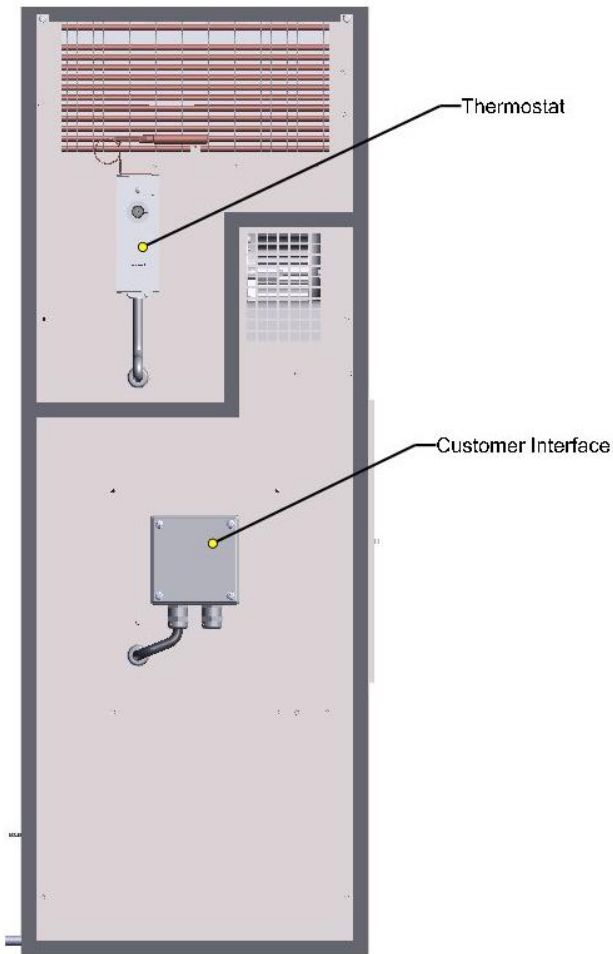

Figure 3: Customer Interface
2. Locate customer interface electrical junction box on enclosure side of air conditioner. (See Figure 3: Customer Interface pg:9).